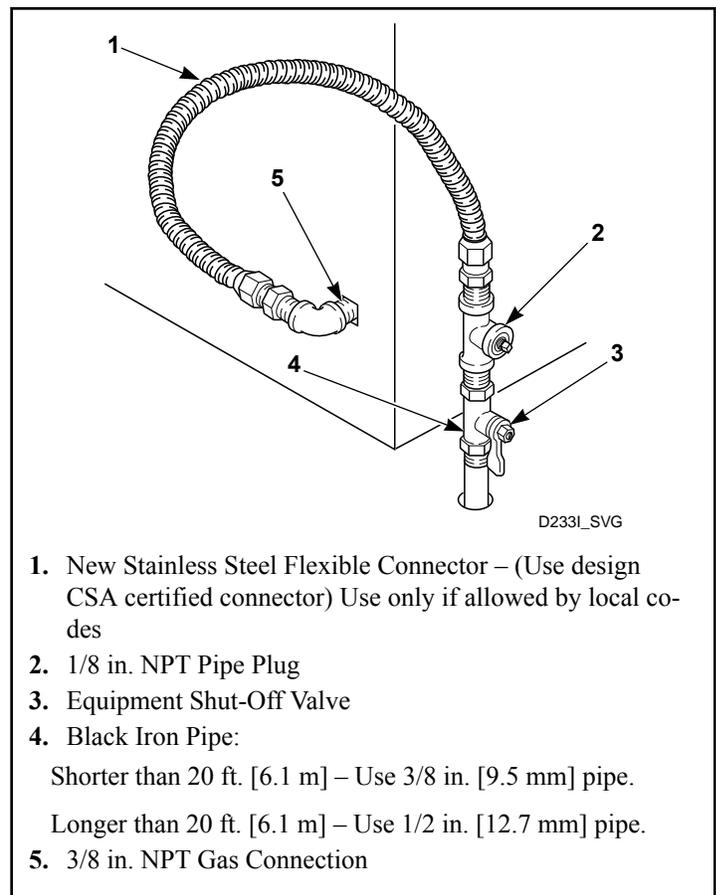

Figure 9
**NOTE: When connecting to a gas line, an equipment shut-off valve in accordance with the National Fuel Gas Code, ANSI Z223.1/NFPA 54 and the Natural Gas and Propane Installation Code, CSA B149.1 must be installed within 6 feet [1.8 m] of the dryer. An 1/8 in. NPT pipe plug must be installed as shown for checking inlet pressure. Refer to Figure 9 .**